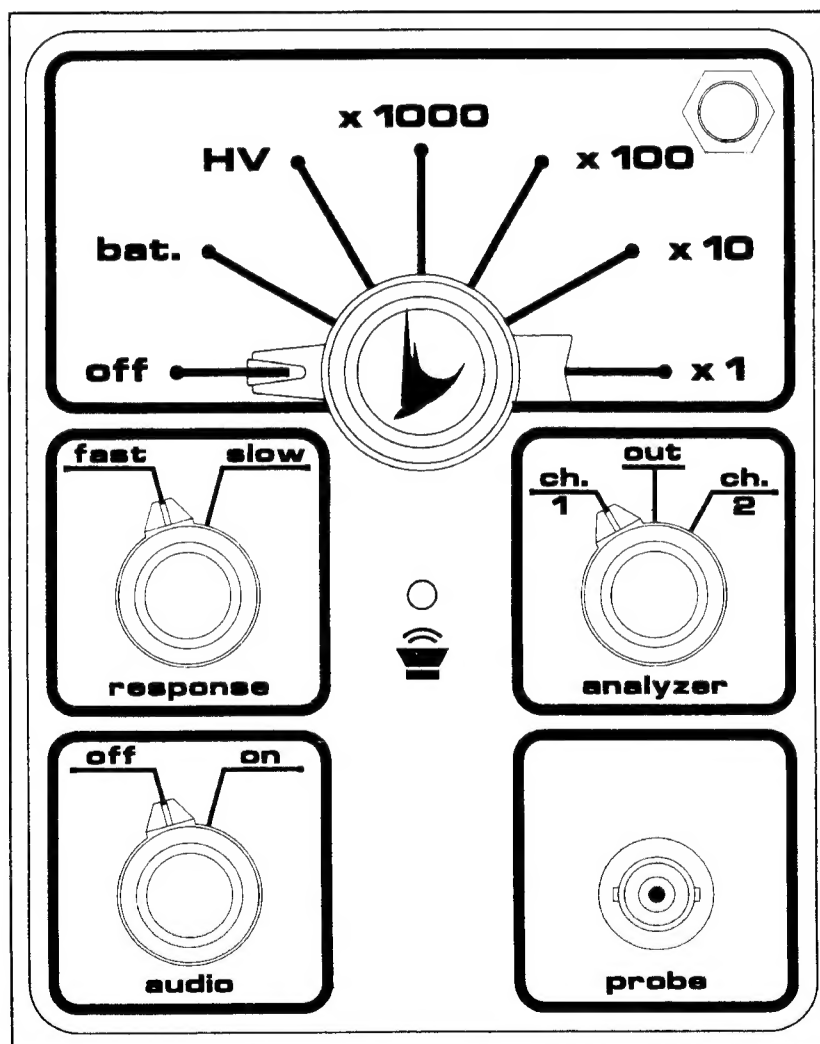

Figure 1
**CONTROL:** Seven-position rotary switch: "off", "bat.", "HV", "X1000", "X100", "X10", "X1" (Figure 1).
The Analyst operates in three different counting modes, as determined by the setting of the analyzer switch on the top of the instrument (Figure 1).